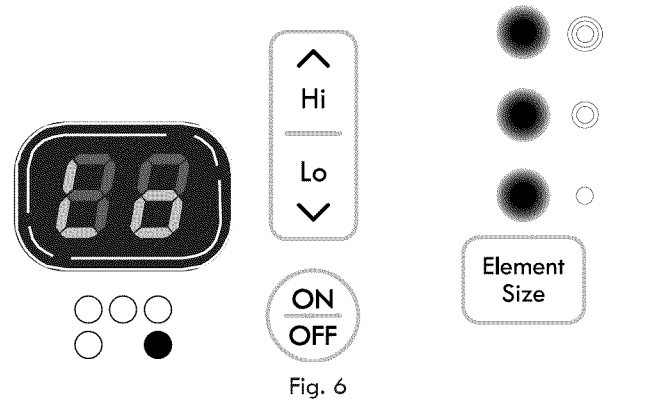

Fig. 6
5. Touch HI  pad once to turn ON the power level to HI. Touch Lo  pad once for Lo (See Fig. 6).